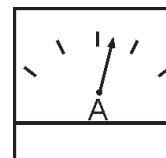

Figure 51. Ammeter (Load)
15. Observe the generator's ammeter (Figure 51) and verify it reads the anticipated amount of current with respect to the load. The ammeter will only display a current reading if a load is in use.